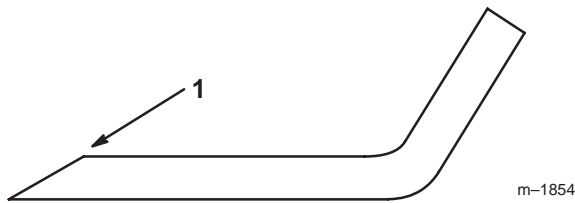

Figure 45
1. Use a file to sharpen the cutting edge at both ends of the blade (Fig. 45). Maintain the original angle. The blade retains its balance if the same amount of material is removed from both cutting edges.